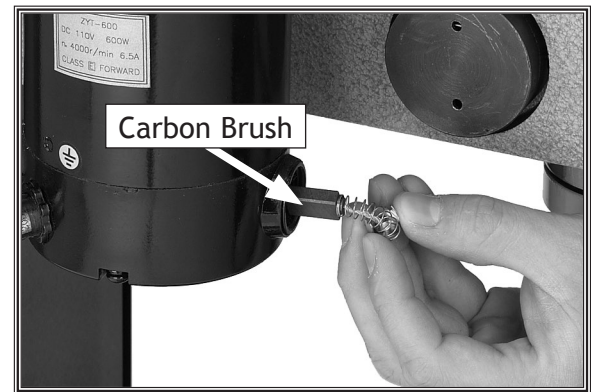

Figure 34. Carbon brush removal.
2. Remove and replace the spring and carbon brush as shown in **Figure 34**.